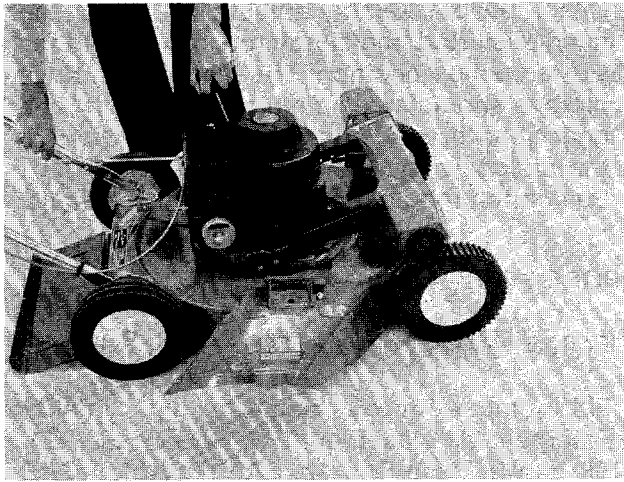

FIGURE 10.
3. Place foot on left side of deck and hold handle to prevent tipping the unit. Grasp starter handle as shown in figure 10 and pull out rapidly. Return it slowly to the engine. Repeat if necessary.